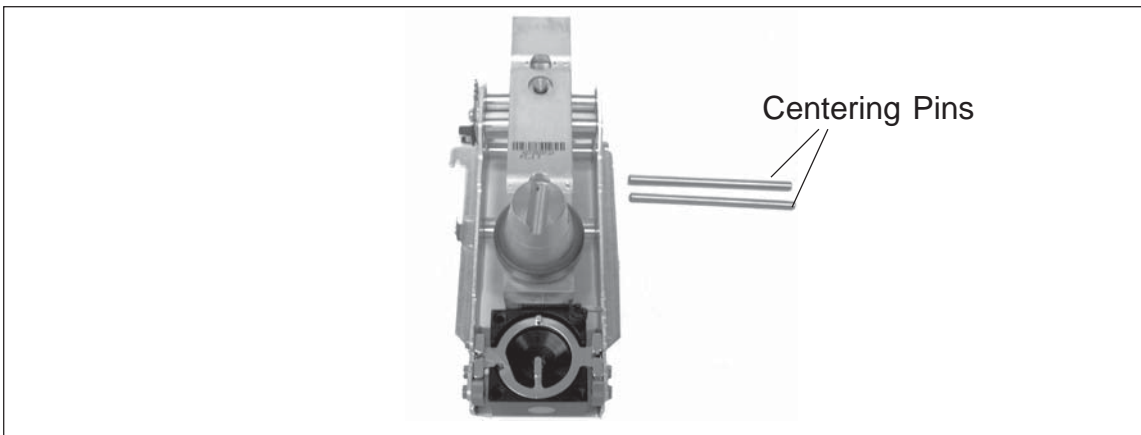

Figure 3-53. Centering Pins Removed.
10. Refer to Figure 3-53 and remove the centering pins as shown.
14. Refer to Figure 3-53 and remove the centering pins.
15. Refer to figure 3-53 and make sure that the ratio Beam coil is centered in the Magnet assembly. If the coil is not centered, inspect the centering ring, loosen the Ratio beam nuts and repeat from step 12.